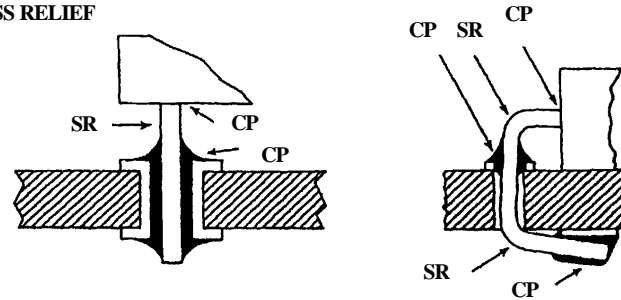

Figure 8-12. Conductors Terminating on Both Sides
7. **Conductors Terminating on Both Sides.** Stress relief shall always be provided in the part lead between the part body and solder termination. When a conductor is used to interconnect opposite sides of a PWB, stress relief or a PTH shall be provided (Figure 8-12).